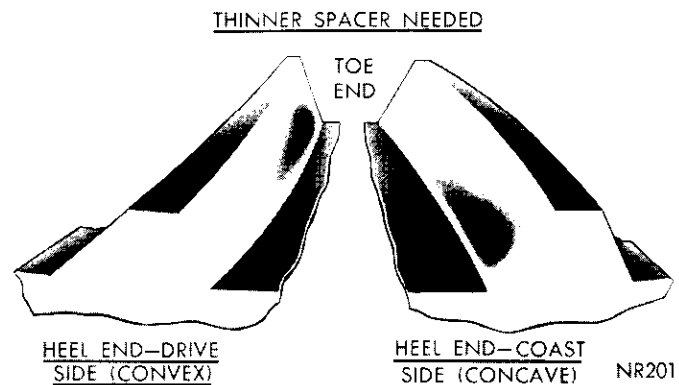

Fig. 37—Incorrect Tooth Contact Pattern (Decrease Spacer Thickness)
(4) If after observing the contact pattern and you find it resembles that in (Fig. 37), the drive pinion is too close to the ring gear, the pattern will appear low on the toe on drive side and low heel contact on coast side. To correct this type tooth contact pattern, decrease the thickness of the rear pinion bearing